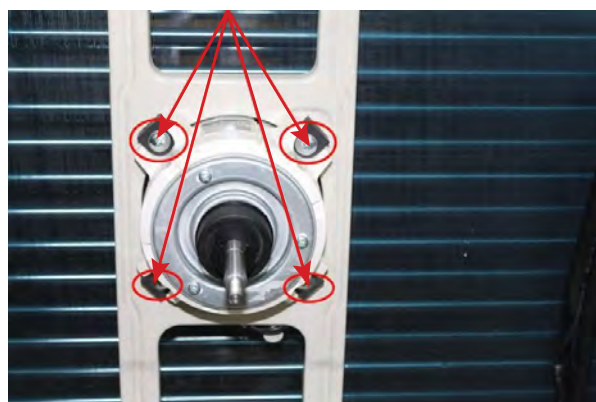

Figure 101
5. Remove the grounding screw (Fig.101, pos.1).
6. Remove the wires 1,2,3 (Fig.101, pos.2). Then remove the electronic control box.